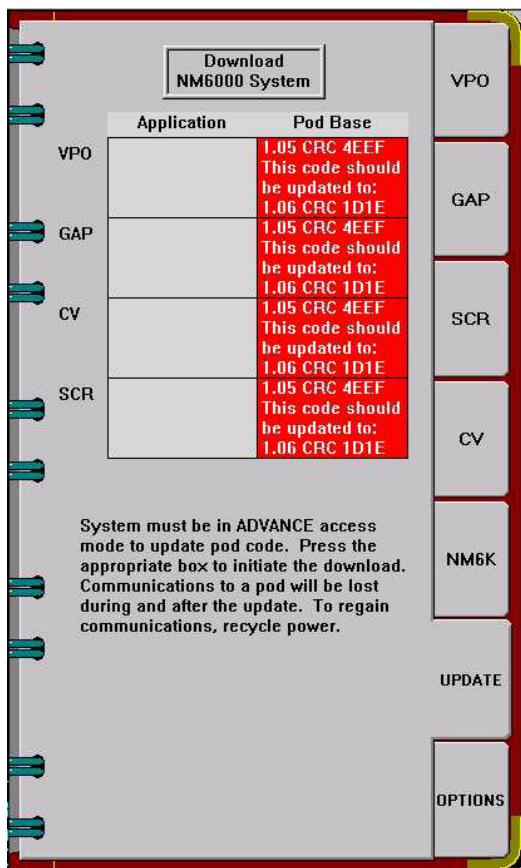

FIGURE 48. NM6000 Service Config Notebook Update Page
- 8.87 Touch the Update tab in the NM6000 CONFIGURATION to access the UPDATE Page. (Refer to Update Page in Section 2.4.2 of the Narkomed 6000 Technical Service Manual.) Press the VPO and GAP Pod Base keys to initiate the POD Base download. Also press CV and SCR keys if these options are present. See Figure 48.